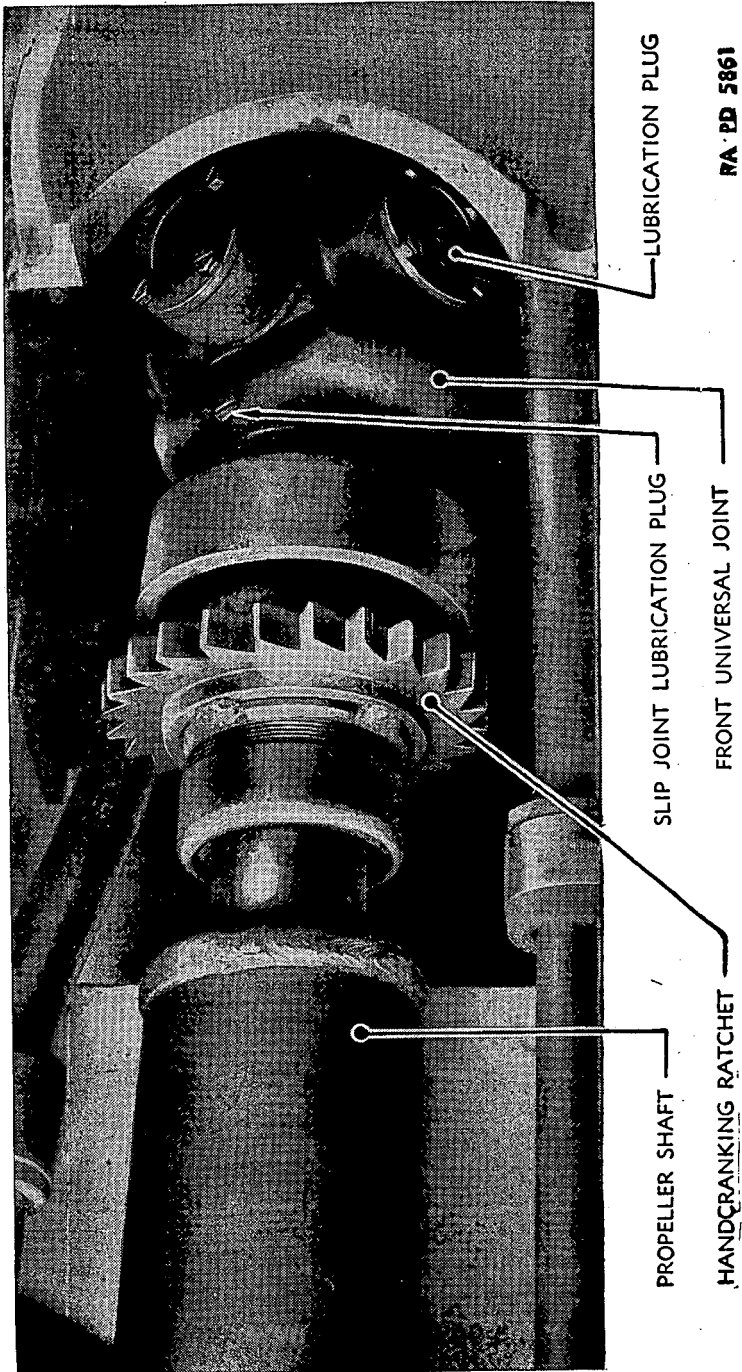

FIGURE 56.—Propeller shaft and front universal joint, Guiberson engine.
95. Description (fig. 56).—The propeller shaft transmits power from the clutch to the transmission. It is inclosed in a housing or "tunnel," which also mounts a padded gunner's seat. The propeller shaft is equipped with a universal joint at either end and a slip joint which permits it to be telescoped.
- a. Removal.*—(1) Remove propeller shaft housing cover.